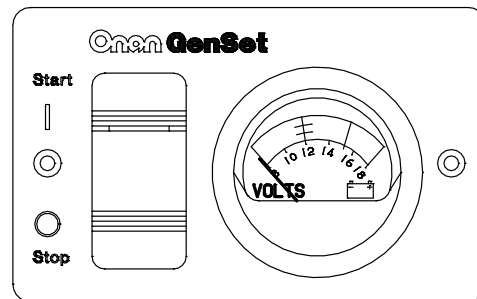

FIGURE 2-7. REMOTE SWITCH / DC VOLTMETER
- Remote switch with status light indicator light and DC voltmeter (Figure 2-7).